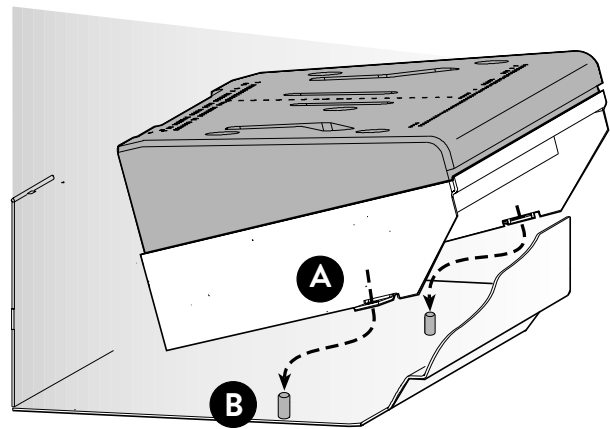

Figure 18. Burner installation.
- Tilt the burner assembly back as shown in fig 18 to engage it with the injectors in the back wall and the shutter trays on the firebox floor. Settle the assembly on the floor engaging the front retainer brackets (A) with the adjacent floor studs (B).